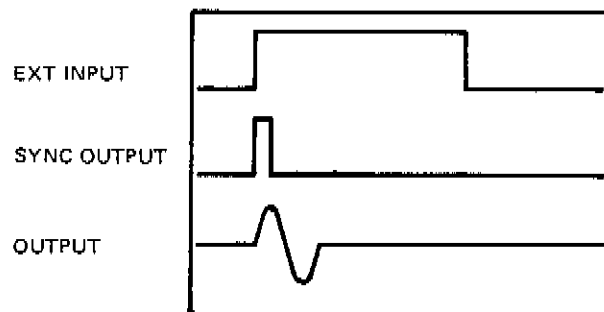

Figure 4-8. Example of correct trigger operation
- Set ext. function generator for output pulse approx $50\ \mu\text{s}$ wide, rep. rate 10 kHz, baseline zero or more negative, pulse top + 1 V. Adjust 8116A trigger input level for correct trigger. Verify that each trigger pulse generator one complete output cycle (Figure 4-8).